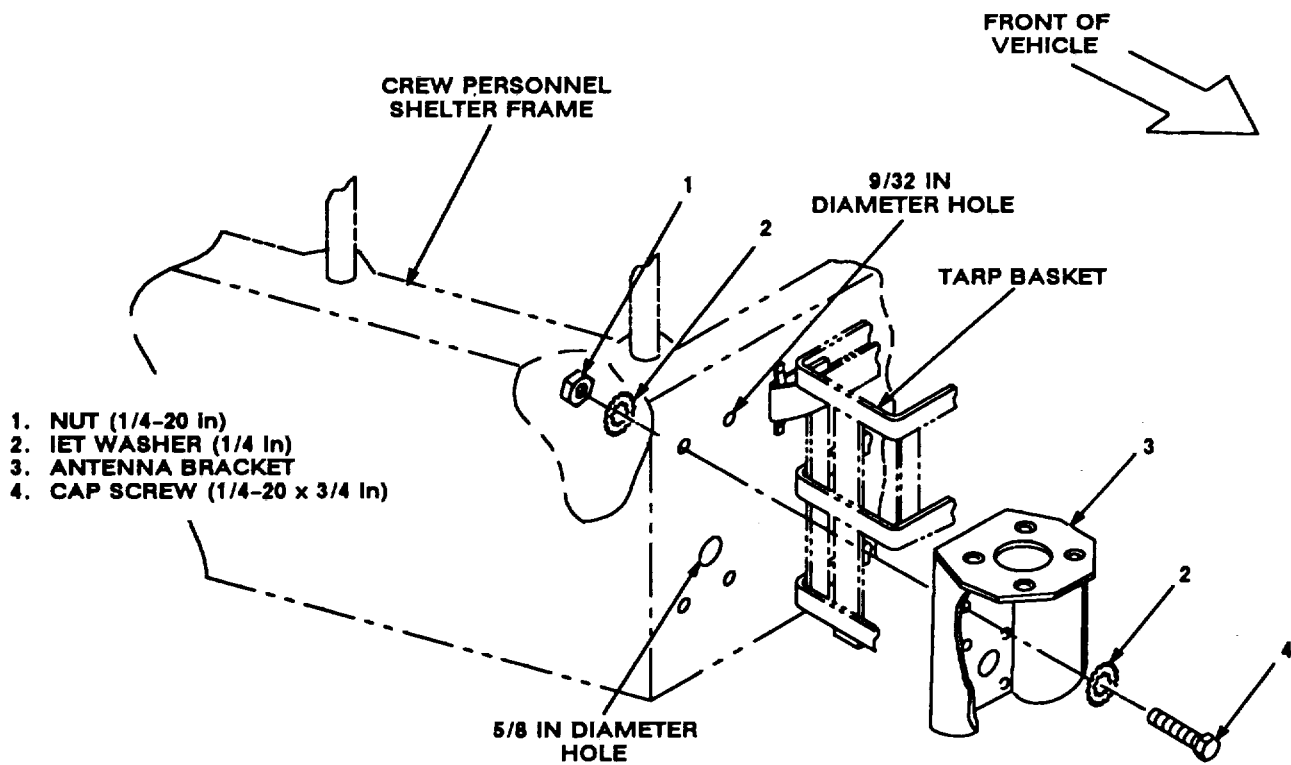

Figure 5-3 (1). Alternate Antenna Base Installation: Installing Antenna Bracket
b. Antenna bracket (3).	Place against crew personnel shelter frame and aline mounting holes. See figure 5-3 (1).
c. Three cap screws (4), three IET washers (2) and three nuts (1).	Install and secure to top two holes and bottom right hole in antenna bracket (3) and crew personnel shelter frame.	Tools: 7/16 in socket.